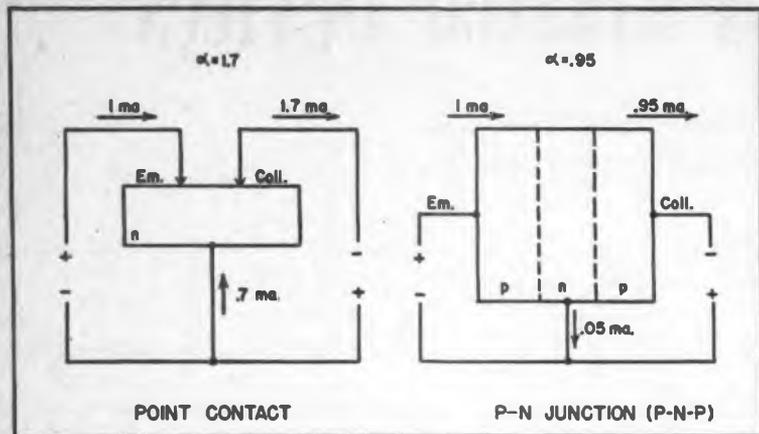
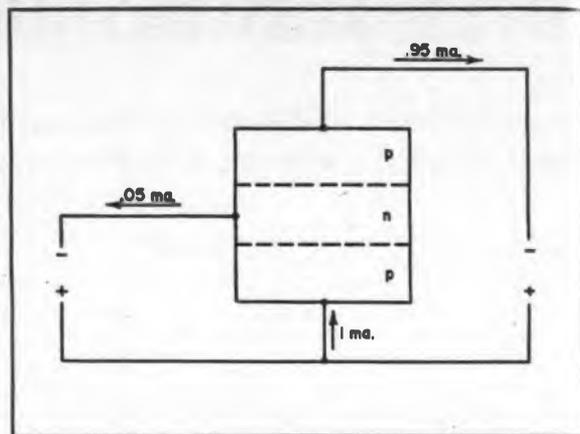

Fig. 7: Comparison of transistors
Fig. 8: Circuit current gain  $\alpha/(1-\alpha)$
At this point, a comparison in operating principles with the older point contact transistors is in order. Fig. 7 shows them side by side. In the point contact transistor, as in the new p-n-p types, the emitter injects holes into n-type germanium, and these holes appear in the barrier region of an inverse biased rectifier. In the case of the point contact transistor, however, there is a physical multiplying effect, resulting in more current being collected than was originally emitted, 1.7 times as much for a typical unit, (i.e.,  $\alpha = 1.7$ ). Herein lies the fundamental distinction between the two types. The new p-n-p or n-p-n junction transistors have alpha less than unity. When alpha is greater than unity, as in the point contact transis-
reactance elements consisting of a post and an iris are used. The iris is placed in the series arm and the post is in the through run of wave guide directly in front of shunt junction (Fig. 7). The post extends upward into the series arm slightly. The iris is at the series junction and covers approximately one third of the cross-section. The iris functions primarily to eliminate the series junction mismatch, and the post the shunt junction mismatch. This is, of course, an oversimplification since there is a considerable degree of interaction because the post affects both inputs.
**Ratrace**—A sectional view of the ratrace is shown in Fig. 8. It consists of a wave guide ring having an electrical length of  $1\frac{1}{2}\lambda$  with four series junctions spaced at quarter wavelength intervals around half of the circumference as shown. Either arms B and D or arms A and C may be used as inputs. Energy coupled into the ring from arm D splits at the ring in an out-of-phase manner, each half of the energy traveling  $\frac{3}{4}\lambda$  to the diametrically opposite point where it is still out-of-phase setting up within the ring a pure standing wave (zero losses are assumed) having voltage minimums at A and C, and E and voltage maximums at B and F. Total destructive interference occurring at A establishes the voltage minimum and the remaining maxima and minima occur at  $\frac{1}{4}\lambda$  intervals around the ring. Energy incident at arm B also establishes a standing wave by the same mechanism with maxima at D and F and minima at A, C, and E.
Fig. 7: (left) Interior view of hybrid junction. Fig. 8: (right) Sectional schematic of hybrid ring. Fig. 9: (below-left) Balanced mixer. Fig. 10: (below-right) Duplexer